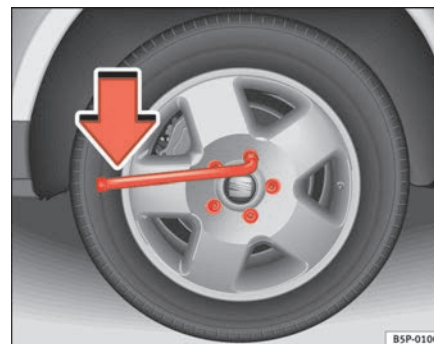

Fig. 175 Changing the wheel: loosen the wheel bolts
- Grasp the box spanner by the end turn it about one full turn to the **left** ⇒ fig. 175.